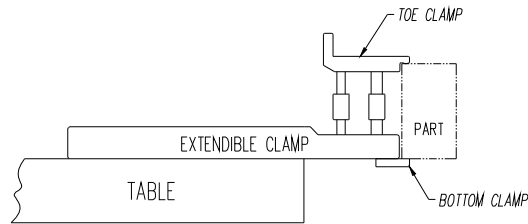

Figure 4
STEP 4. For work pieces from 3.5 inches to 6.0 inches thick, a coupler is used to connect two brass, threaded rods together as shown in Fig. 4.
STEP 5. A second coupler is used to connect the cap screw and a brass threaded rod together to apply the clamping force as shown in Fig. 4. The length of the brass rod and the cap screw is determined by the thickness of the work piece.